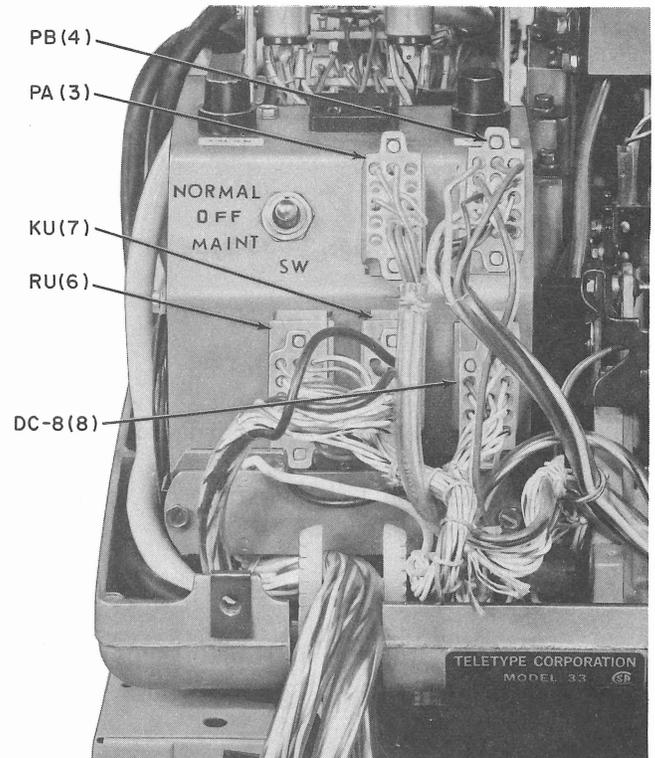
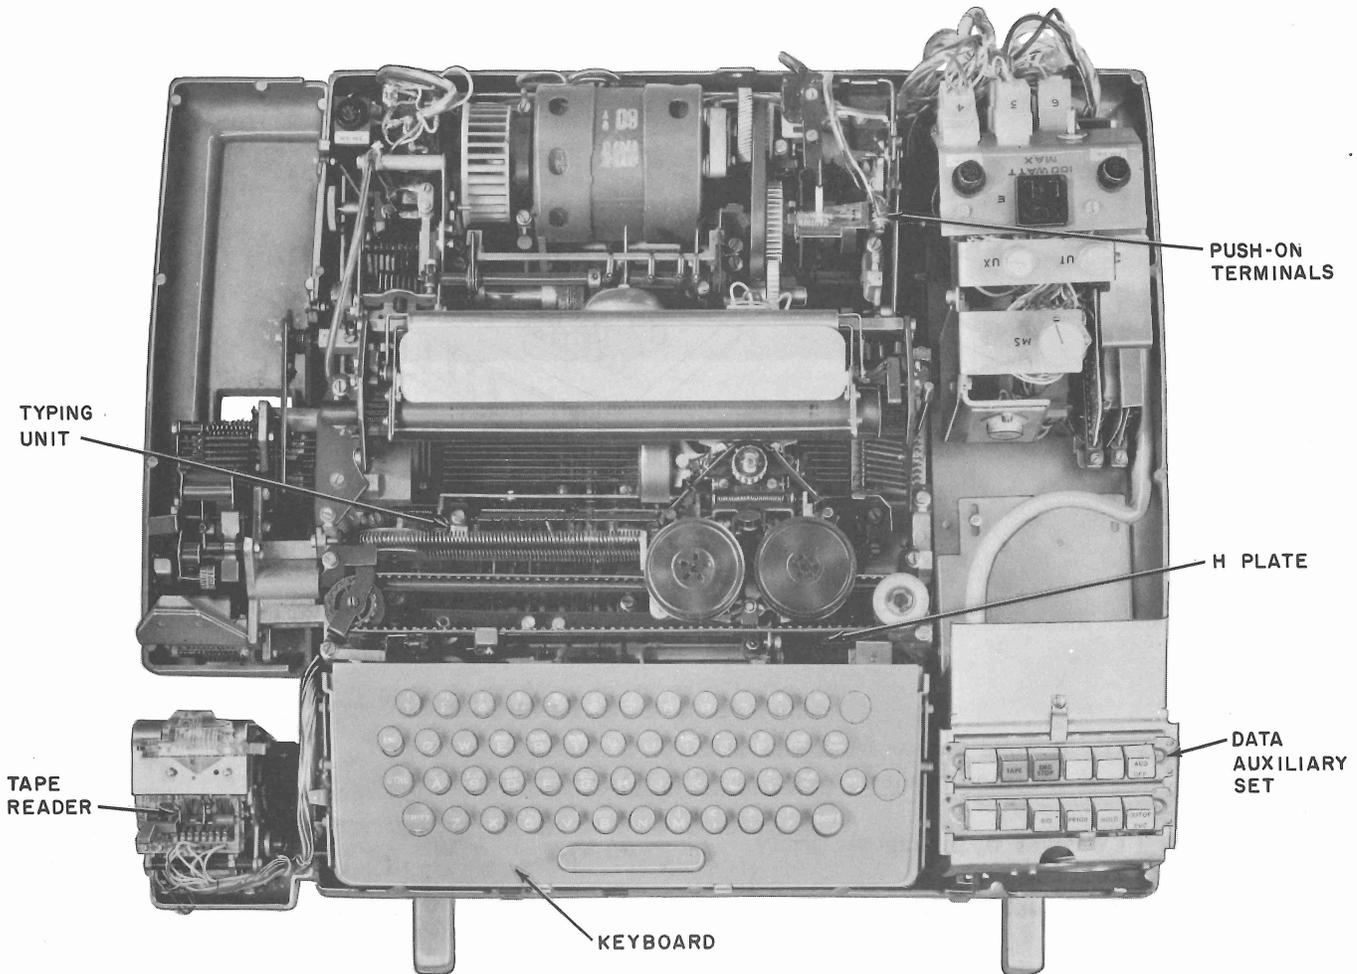
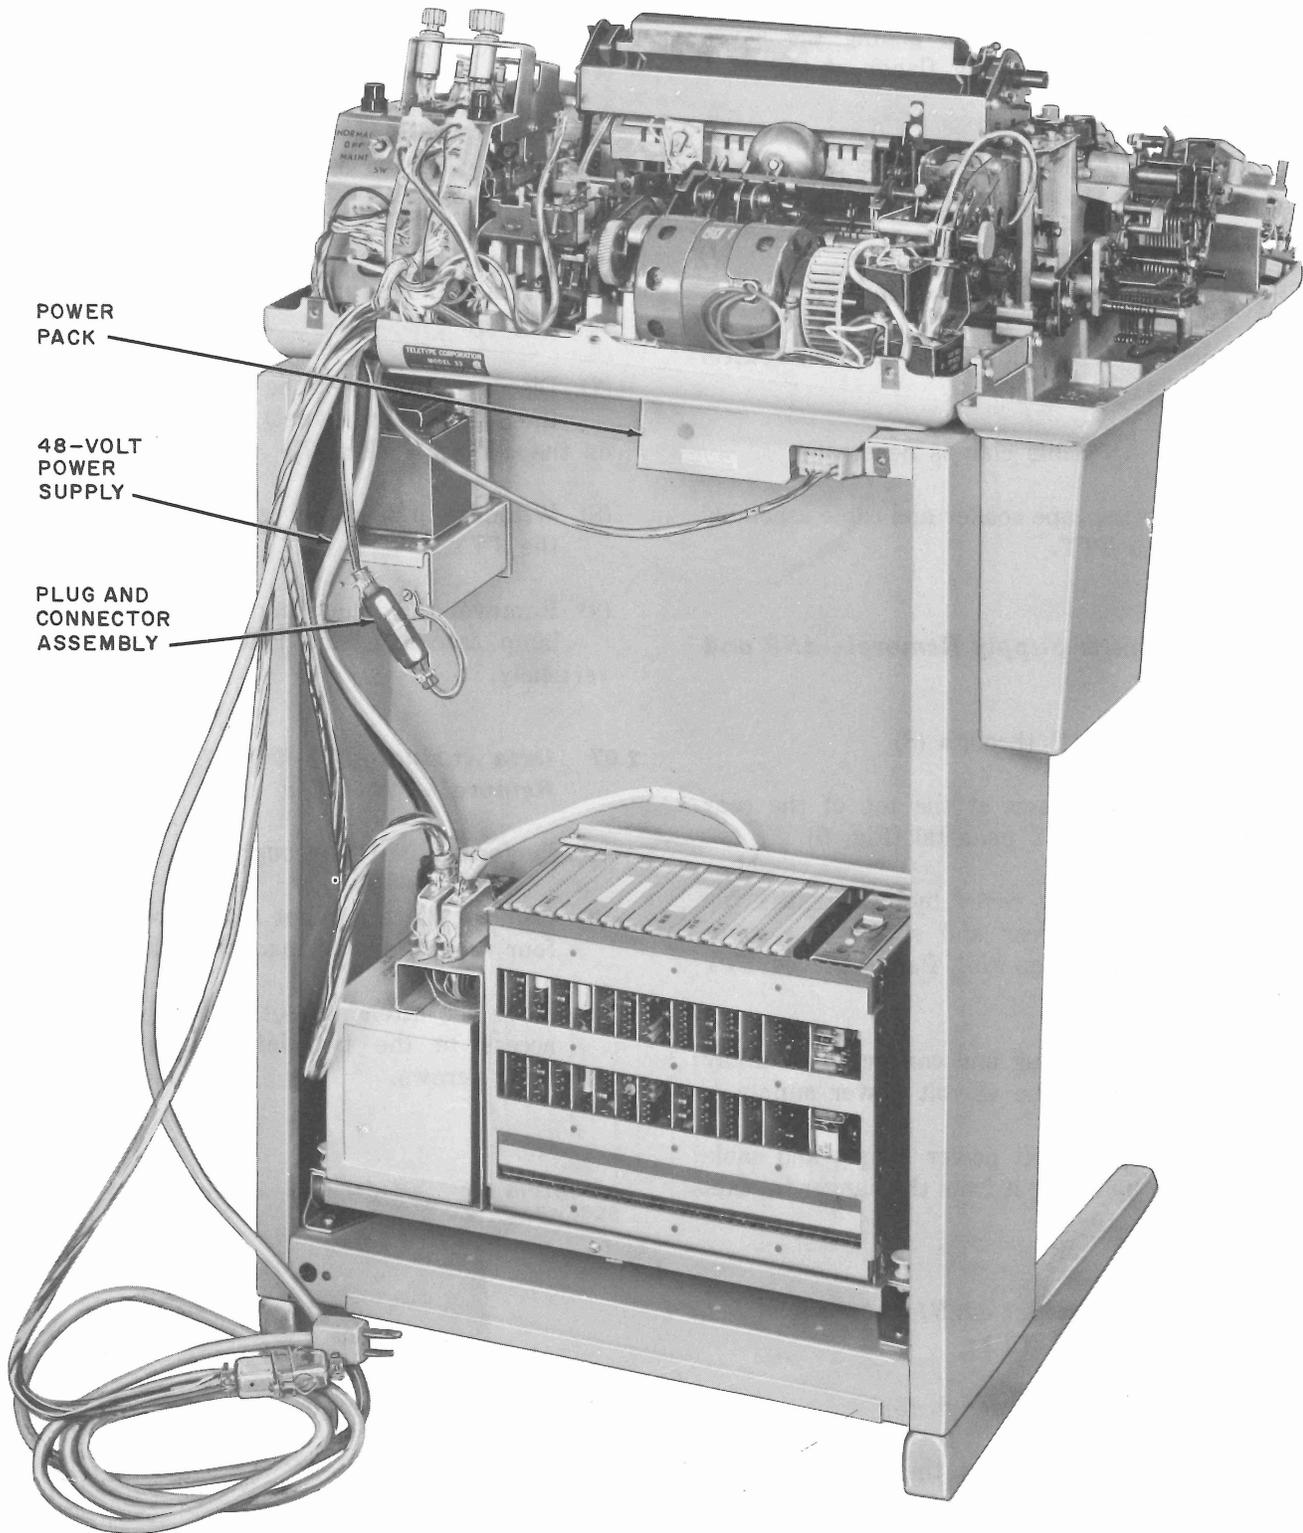
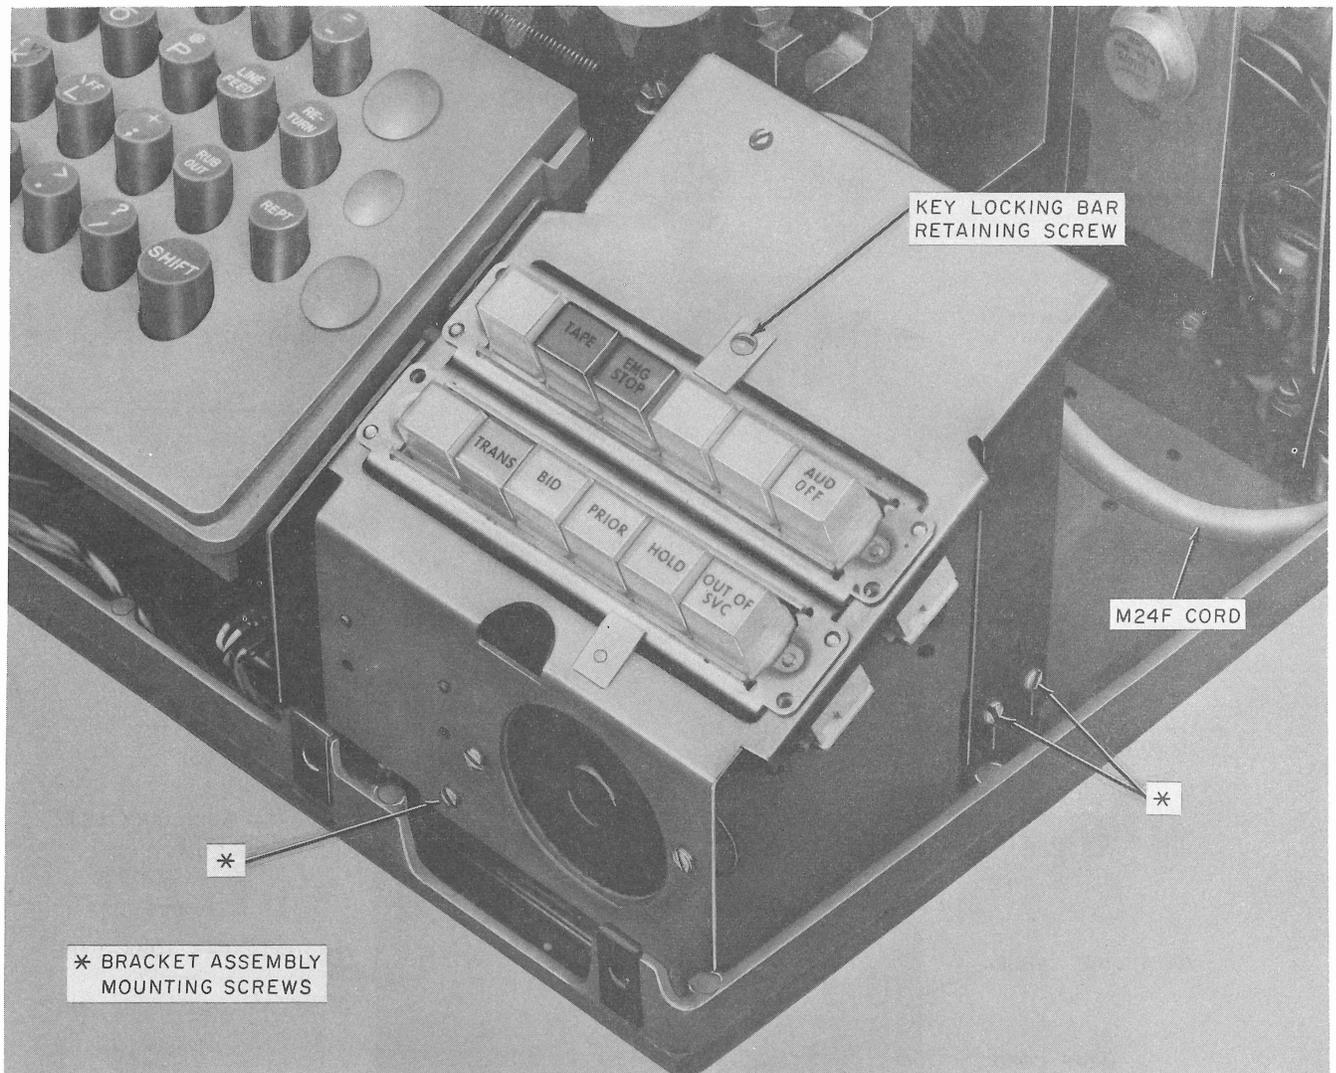

Fig. 2—33-Type TTY Data Station—Call Control Unit
Fig. 3—33-Type TTY Data Station—Typing Unit and Keyboard
Fig. 5—33-Type TTY Data Station—Rear View
Fig. 6—33-Type TTY Data Station—Data Auxiliary Set 804N1
- (1) Perform 2.01 (1) through (8).
- (2) Disconnect plugs 3, 4, and 8 from connectors on the call control unit (Fig. 2).
- (3) If ASR TTY, remove two push-on terminals from the tape reader feed magnet contact assembly (Fig. 3).
- (4) Remove the ground lug at the right rear of the typing unit.
- (5) Return the carriage mechanism fully to the left.
- (6) Insert screwdriver in H-plate and push to left against spring pressure until plate is disengaged.
- (7) Remove H-plate.
- (8) Remove typing unit from subbase by lifting vertically.
- (2) Remove tape reader cable from side frame.
- (3) Disconnect the KU plug from its connector on the call control unit (Fig. 2).
- (4) Remove any necessary cable clamps.
- (5) Insert screwdriver in H-plate and push to left against spring pressure until plate is disengaged (Fig. 3).
- (6) Remove H-plate.
- (7) Remove the two mounting screws at the rear of the keyboard.
- (8) Slide the keyboard to the rear and disengage the locking tabs at the front of the keyboard.
- (9) Remove the keyboard by lifting vertically.
- (4) Remove two screws at the top of the rear cover on the TTY pedestal (Fig. 5).
- (5) Remove the rear cover by pulling the top slightly to the rear and sliding the cover up and out of the mounting flange at the TTY pedestal.
- (6) Remove the power pack in the pedestal by pulling it to the rear to disengage the spring clips.
- (7) Remove the plug from the power pack.
- (8) Remove the RU plug from the call control unit (Fig. 2).
- (9) Remove any cable clamps necessary.
- (10) Remove the tape reader and cable assembly from the TTY.
- (2) Remove two screws at the top of the rear cover on the TTY pedestal (Fig. 5).
- (3) Remove the rear cover by pulling the top slightly to the rear and sliding the cover up and out of the mounting flange at the TTY pedestal.
- (4) Disconnect the plug and connector assembly associated with the 48-volt power supply.
- (5) Remove the 48-volt power supply and cable assembly by lifting it from the hanger bracket (Fig. 5).
- (4) Remove the attendant set by removing the four mounting screws on the mounting plate (Fig. 6).
- (5) Move the attendant set to the right to gain access to the two left bracket assembly mounting screws.
- (6) Loosen, but do not remove, five bracket assembly mounting screws on the attendant set (Fig. 6).